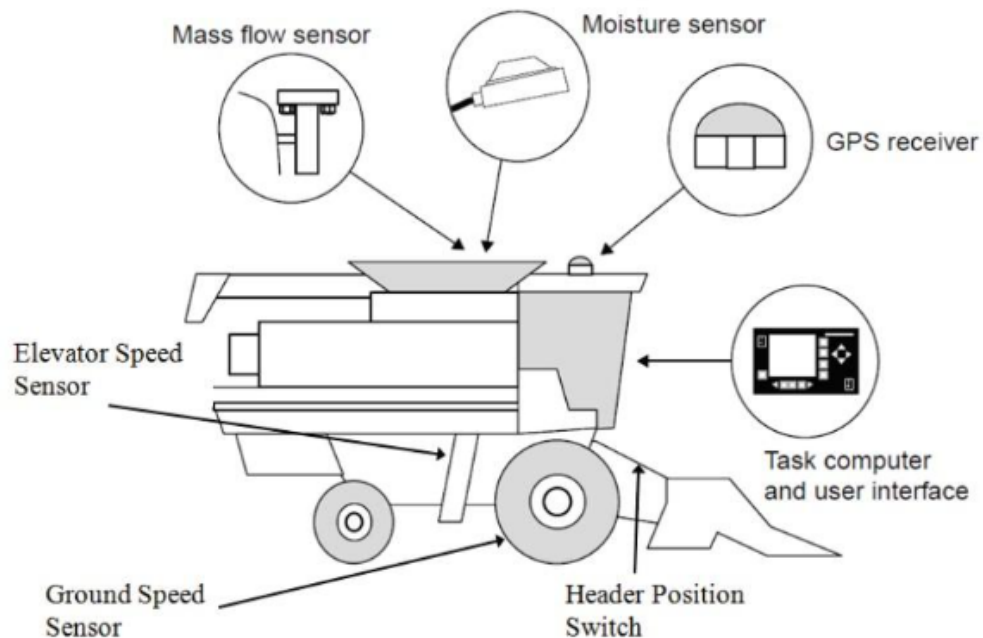

Figure 1
- 2 It is also important to check the version of the yield monitor operating software and install the newest version. See Figure 1 for a diagram showing the general location of sensors in a typical combine yield monitoring system.